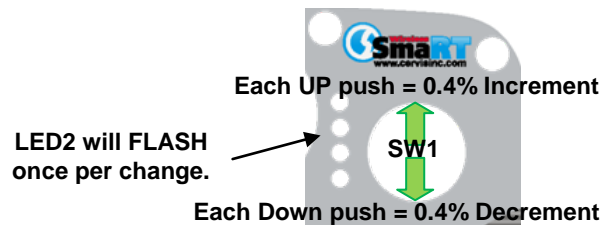

Figure 8. Gain Adjustment
4. To increase the output signal, push **SW1 UP** as shown in Figure 8. **LED2** will flash indicating a **+0.4%** change. Each subsequent push of SW1 from center-set position UP results in a +0.4% change and a flash of the LED2 until the maximum limit of a 100% output signal is reached. The LED2 will not flash once 100% limit is obtained.
5. To decrease the output signal, push **SW1 DOWN** as shown in Figure 8. **LED2** will flash indicating a change of **- 0.4%**. Each subsequent down push of SW1 from center position results in a - 0.4% change and a flash of LED2 until the minimum 56% output lower limit is reached. LED2 will not flash once the 56% limit is obtained.